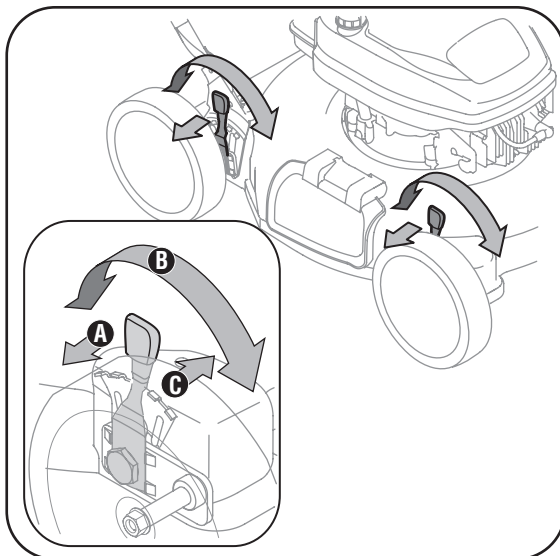

Figure 3-5
- b. Slide lever to desired position for a change in cutting height. See Figure 3-5.